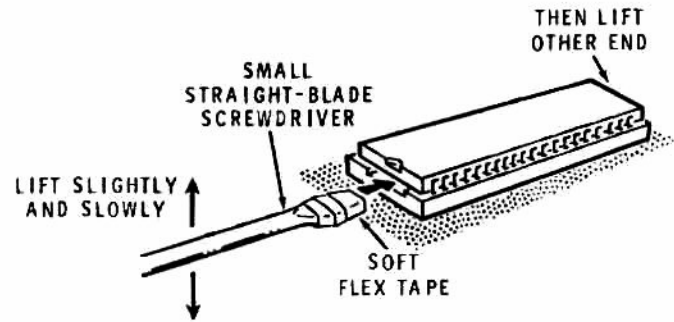

Figure 2.9. 8088 Removal
- Refer to Figures 2.9 and 2.10. Remove the 8088 IC from its socket on the main board (U211) and install it in the empty socket at U252 on the Z-216 card. Make sure the 8088 pins are straight when you install it.